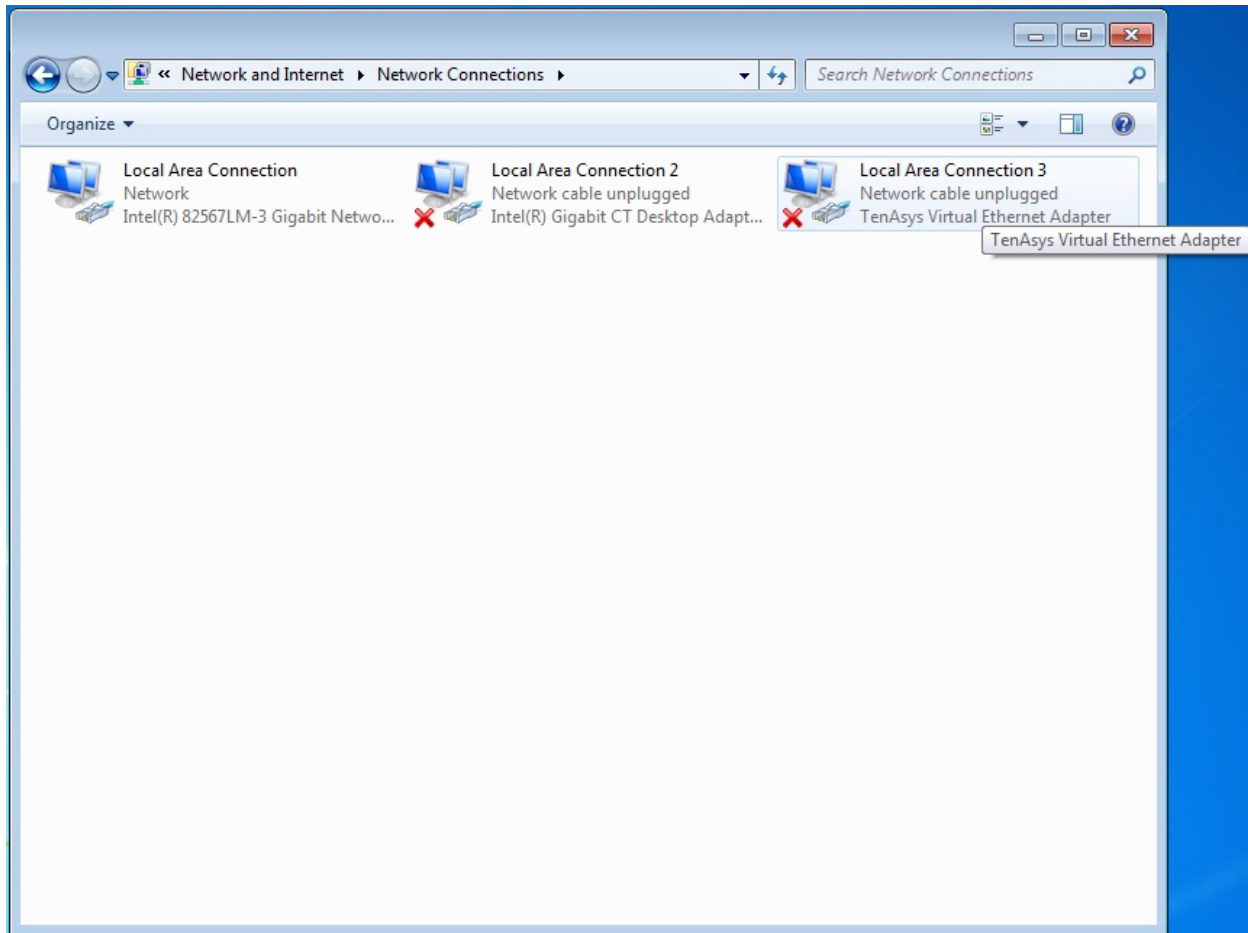

Figure 4.29 - Windows Network Connections
3. Now you will see *Network Connections*, and one of the network connections displayed is the *TenAsys Virtual Ethernet Adapter*, Figure 4.29. Double-click on the **TenAsys Virtual Ethernet Adapter**.